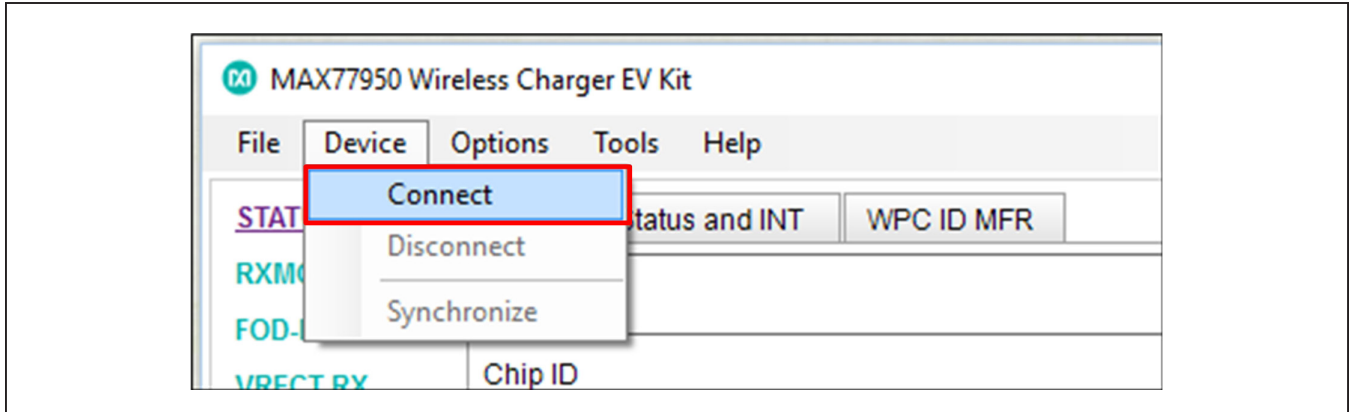

Figure 1. MAX77950 EV Kit GUI (Device Connect)
- 8) Launch the EV kit GUI. Press **Connect** under the **Device** menu to initiate the link with the EV kit as shown in Figure 1.